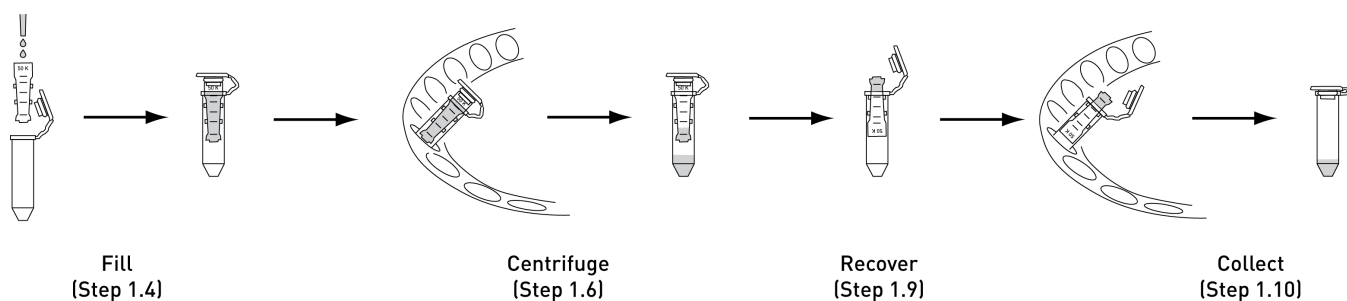

Figure 2 Antibody concentration and/or buffer exchange
- 1.1 Add 500 µL of dH2O to the small antibody concentrator (Component B) and cap the device as shown in Figure 2 (page 4).
- 1.9 Invert the small antibody concentrator (Component B) into the collection tube (Component C) as shown in Figure 2.